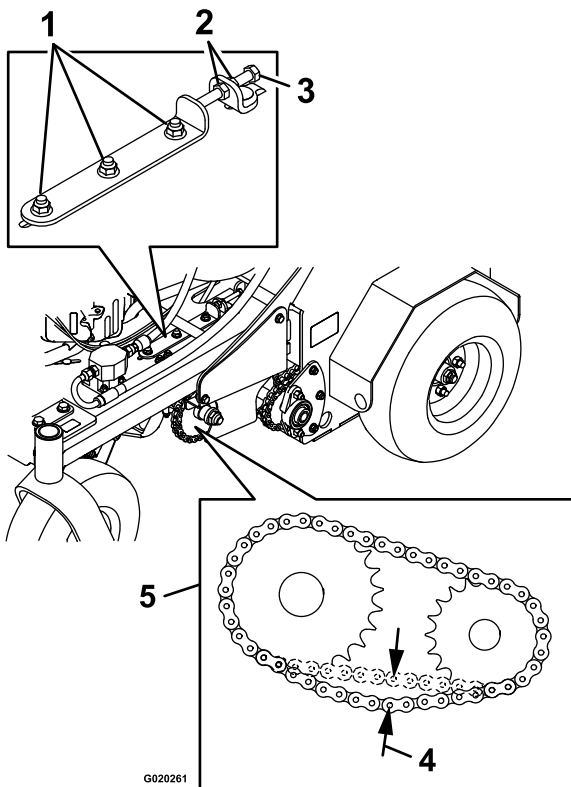

Figure 16
4. Loosen the nuts on the three hydro mounting bolts and the two on the adjustment bolt as shown in Figure 16. The nuts on the hydro mounting bolts must be loosened on both sides of the unit.